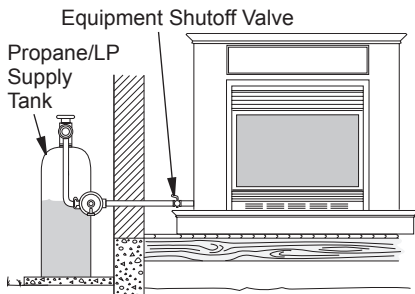

Figure 25 - Checking Gas Joints Shown with Optional Mantel (Propane/LP Gas)
off valve (see Figures 25 and 26). Apply a noncorrosive leak detection fluid to gas joints. Bubbles forming show a leak.
4. Check all joints from equipment shutoff valve to thermostat gas valve (see Figures 25 and 26). Apply a noncorrosive leak detection fluid to gas joints. Bubbles forming show a leak.